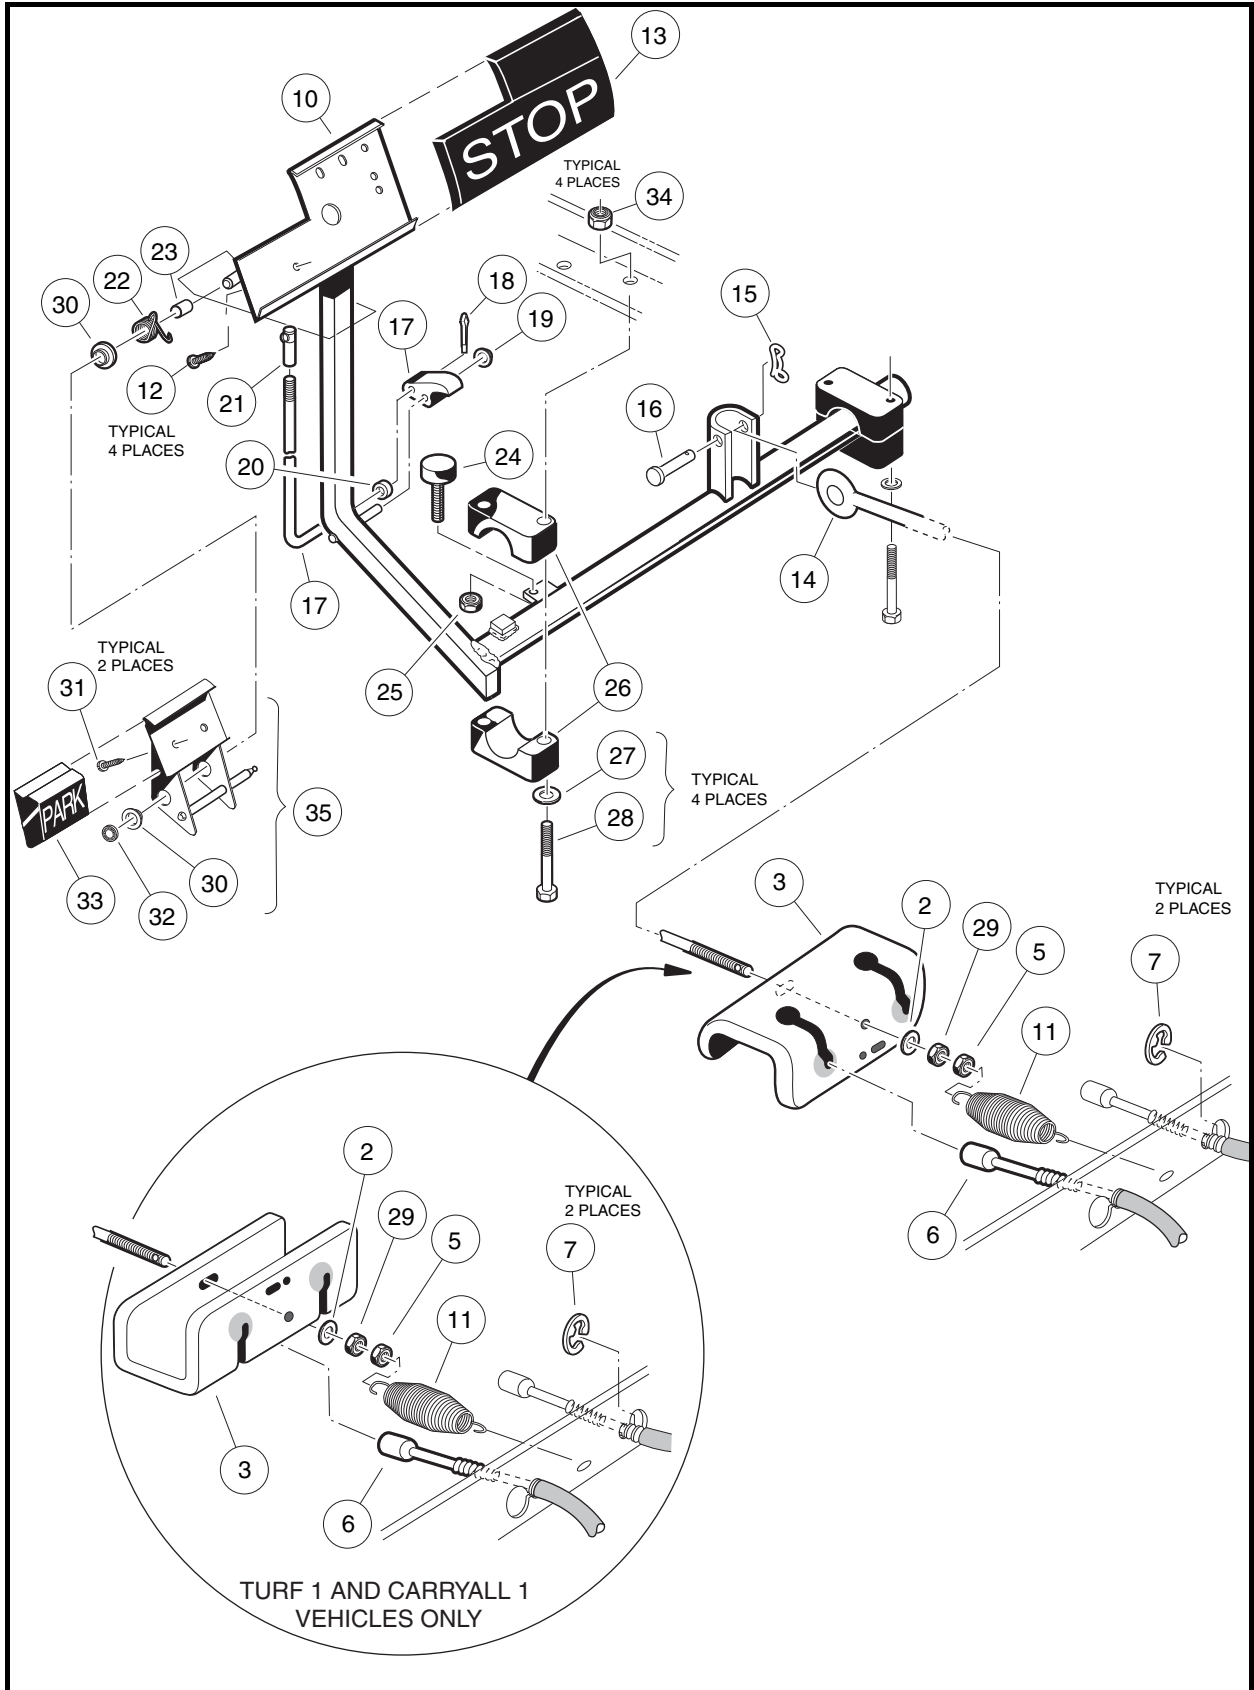
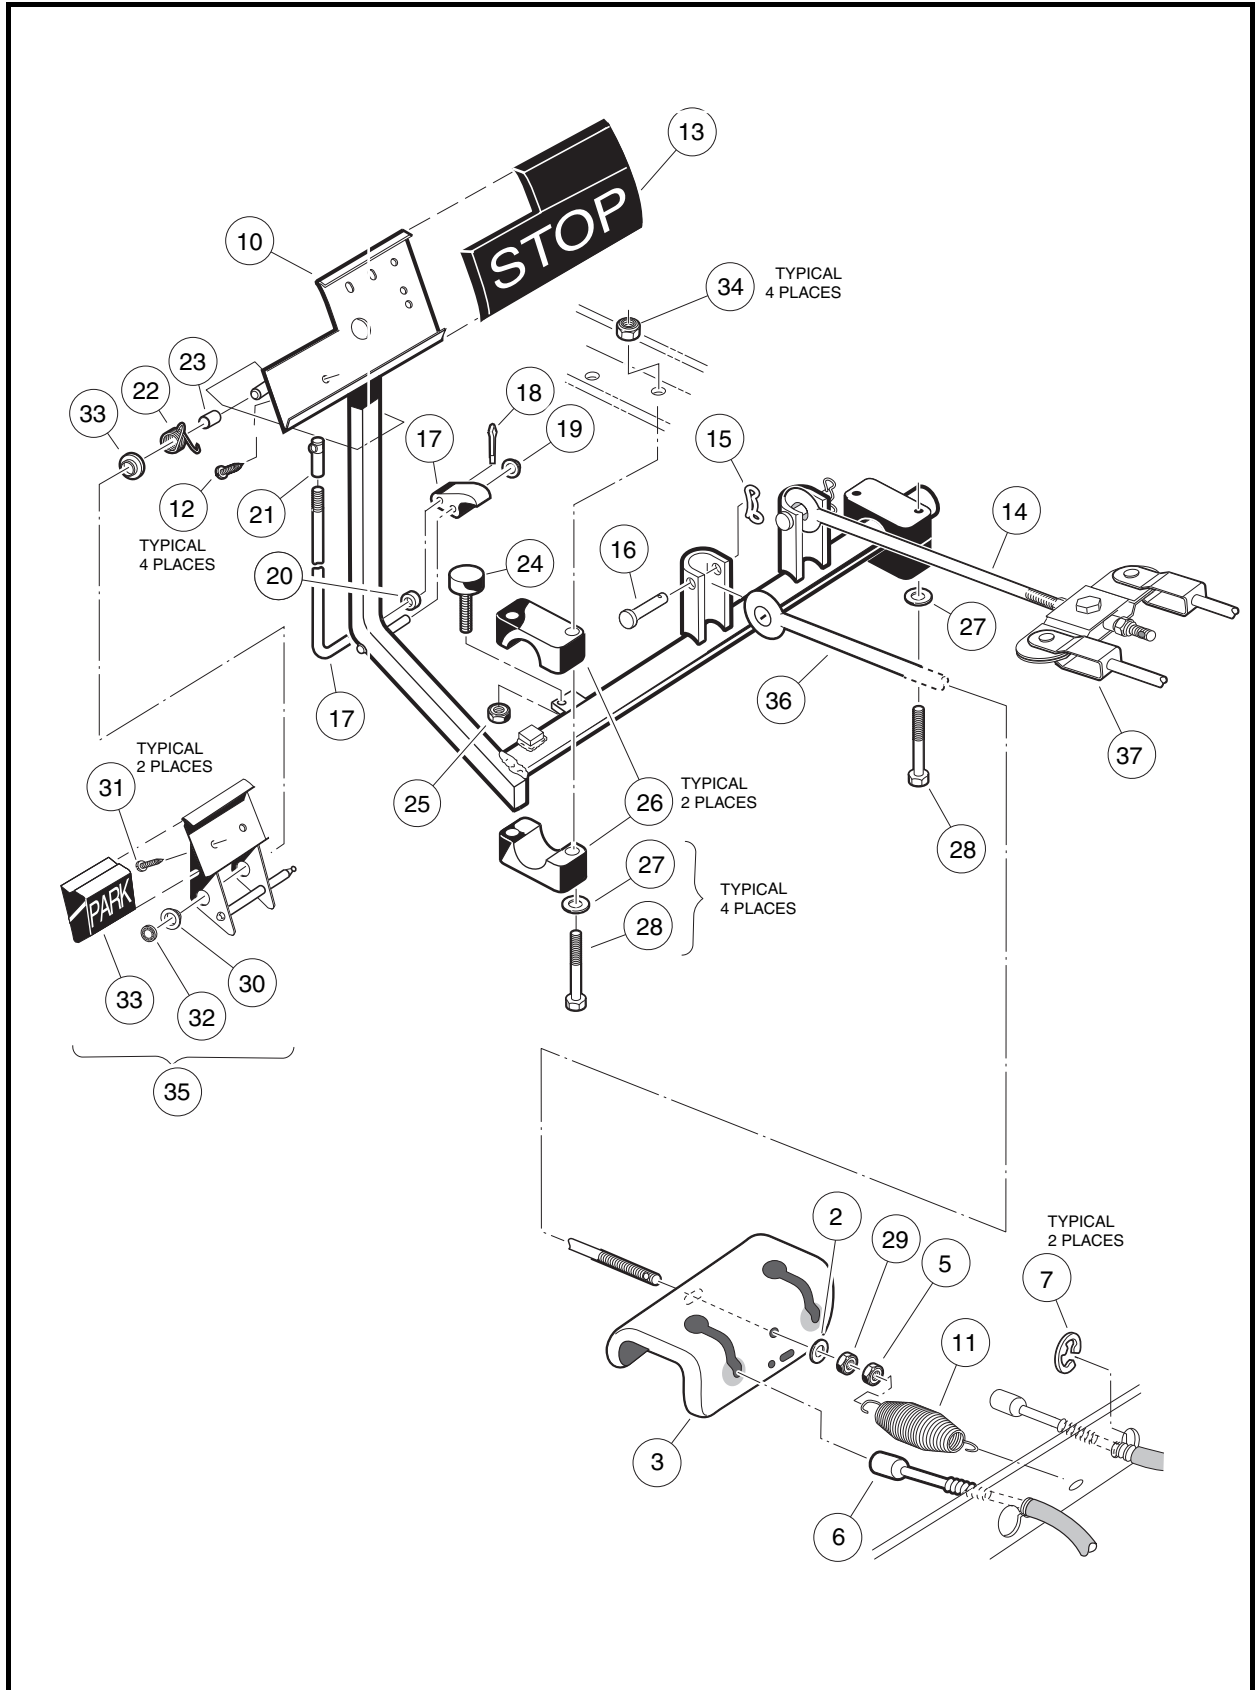
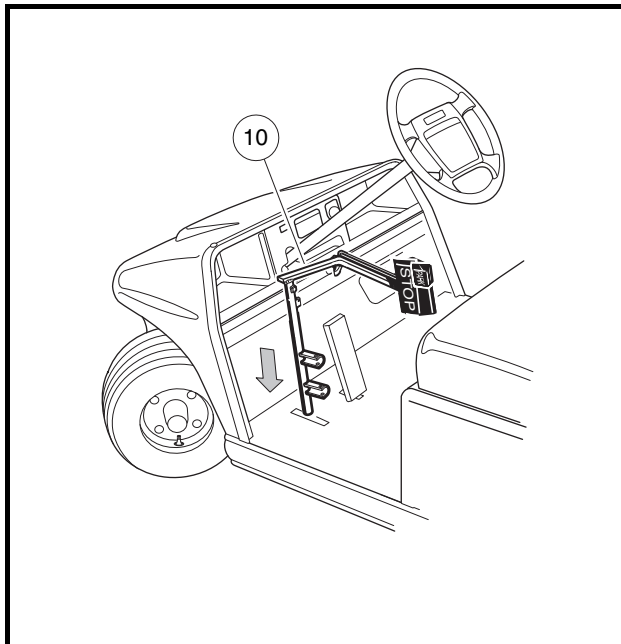

Figure 5-1 Brake and Park Brake Pedal Assembly and Mounting – Two-Wheel Brake Vehicles
Figure 5-2 Brake and Park Brake Pedal Assembly and Mounting – Four-Wheel Brake Vehicles
Figure 5-3 Brake Pedal Weldment Through Floor
- 3.1. Disconnect the equalizer rod(s) (14 and 36) from the pedal shaft by removing the clevis pin(s) (16) and bow-tie pin(s) (15) (**Figure 5-1, Page 5-2 or Figure 5-2, Page 5-3**).
- 3.2. Remove the nuts (34), flat washers (27), bolts (28), and mounting blocks (26). If the mounting blocks (26) show signs of excessive wear or are damaged, they must be replaced with new ones before installing pedal assembly (**Figure 5-1, Page 5-2 or Figure 5-2, Page 5-3**).
- 3.3. Remove the nut (25) and brake stop bumper (24) (**Figure 5-1, Page 5-2 or Figure 5-2, Page 5-3**).
- 3.4. Lift the pedal assembly (10) through the floorboard (**Figure 5-3, Page 5-4**).
1. From the top side of the floorboard, insert the brake pedal assembly (10) (**Figure 5-1, Page 5-2 or Figure 5-2, Page 5-3**) through the opening in the floor as shown (**Figure 5-3, Page 5-4**) and install the brake pedal stop bumper (24) (**Figure 5-1, Page 5-2 or Figure 5-2, Page 5-3**) on the brake pedal assembly, but do not tighten the jam nut (25) at this time.
2. Secure the equalizer rod(s) (14 and 36) to the brake pedal assembly (10) with clevis pin(s) (16) and bow-tie pin(s) (15) as shown (**Figure 5-1, Page 5-2 or Figure 5-2, Page 5-3**). **See following NOTE.**
3. Position and attach brake pedal assembly, mounting blocks (26), and washers (27) to vehicle frame as shown. Tighten the bolts (28) and nuts to 95 in-lb (10.7 N·m) (**Figure 5-1, Page 5-2 or Figure 5-2, Page 5-3**).
- 3.1. To remove the park brake rod and pawl assembly (17 through 20), remove the push nut (19) and disconnect the ball joint sleeve (21) from the park brake pedal (35) (**Figure 5-1, Page 5-2 and Figure 5-2, Page 5-3**). **See following NOTE.**